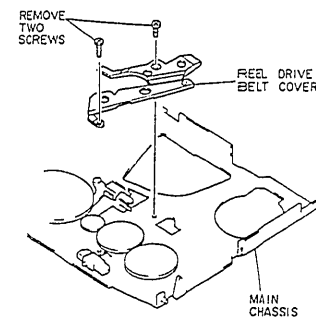

Fig. 2-59
- 1) Remove two (2) screws and remove the reel drive belt cover from the main chassis. (See Fig. 2-59)